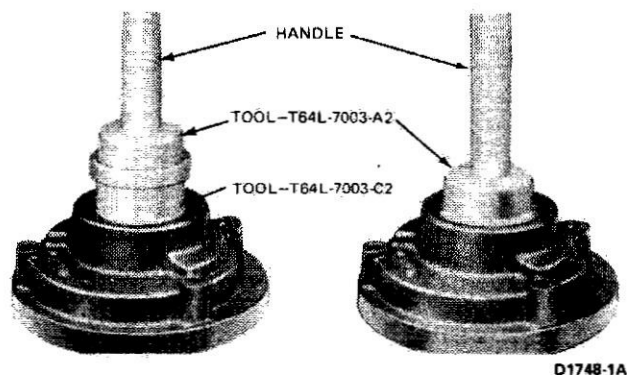

FIG. 34 Replacing Front Pump Housing Bushing
4. If the pump housing bushing is to be replaced, press the bushing from the front housing with the tools shown in Fig. 34.
5. Press a new bushing into the pump housing with the handle and tool shown in Fig. 34.